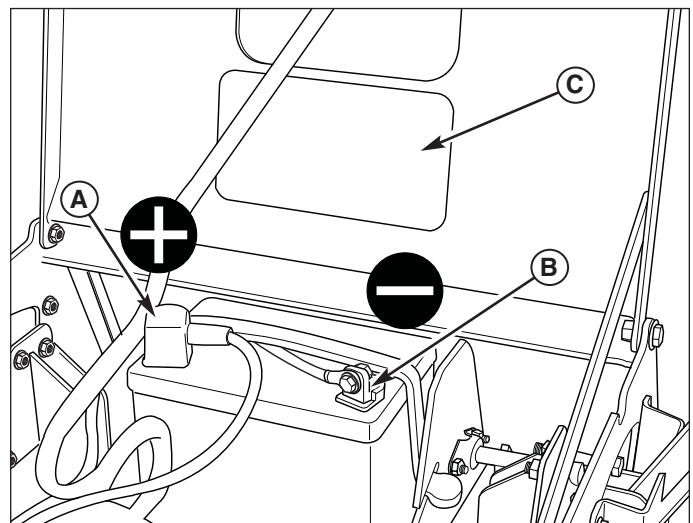

Figure 2. Connect the Battery
1. Connect the red positive battery cable (A, Figure 2) to the positive battery post. Make sure that the cable boot completely covers the positive terminal, so the terminal cannot touch the insulator pad (C).
2. Connect the black negative battery cable (B) to the negative battery post.